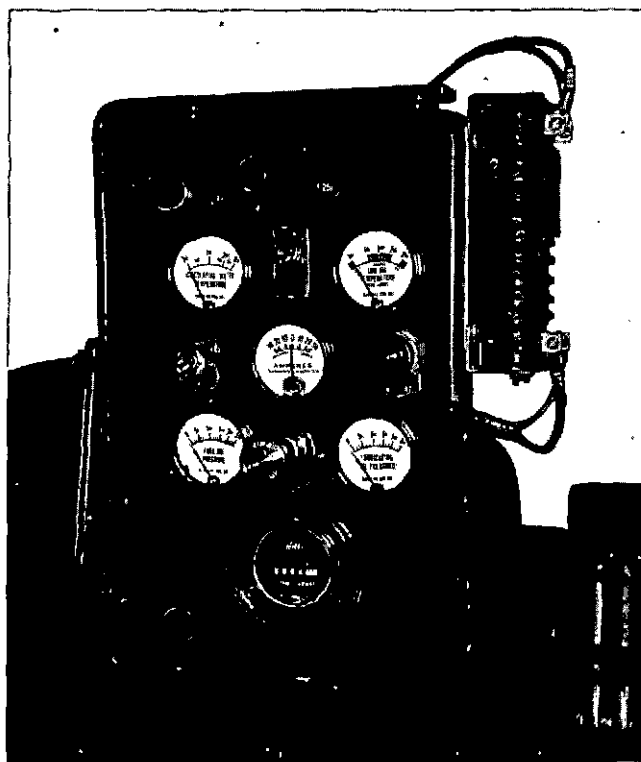

Fig. 14-2-5, V414228. Instrument panel
4. Start engine: press starter button (1, Fig. 14-2-5) or turn switch key to "start" position.